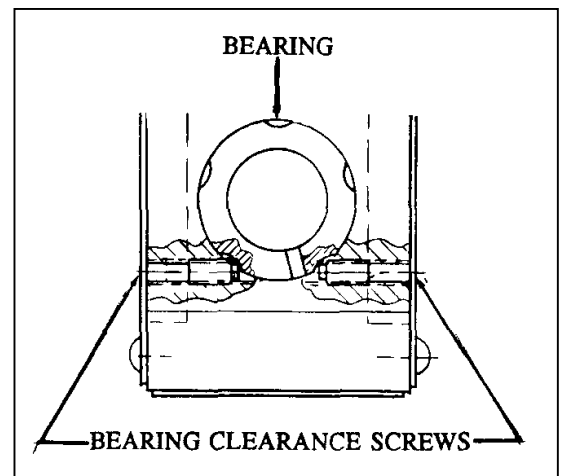

Figure 5-1. Bearing Clearance Adjustment
- 1 Remove the Covers from both sides of Weld Head with a 1/8 inch hex key. Use a 1/8 inch hex key to loosen the two BEARING CLEARANCE ADJUSTMENT SCREWS on each side of the UPPER and LOWER BEARINGS. If necessary, realign each BEARING so that the BEARING split faces forward as indicated in Figure 5-1. If the BEARINGS will not turn easily, it can be assumed that the bearings are correctly oriented.